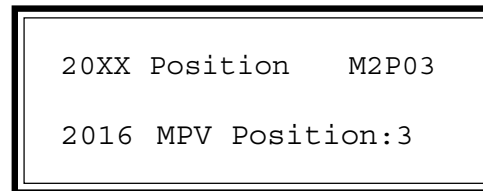

Figure 6-44 MPV Positioning Screen
- Instructs the autosampler to activate its multi-position valve and switch to the correct sample position while displaying the screen in Figure 6-44.